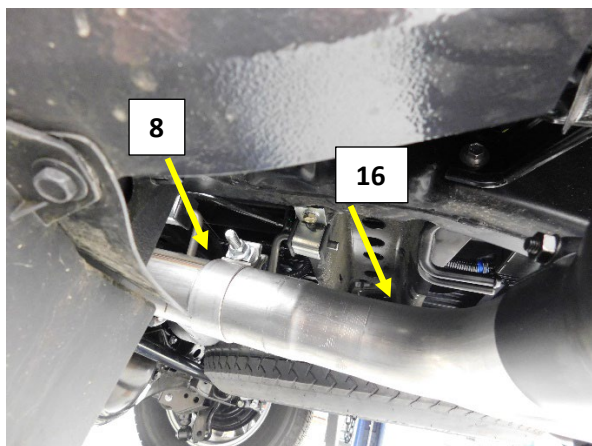
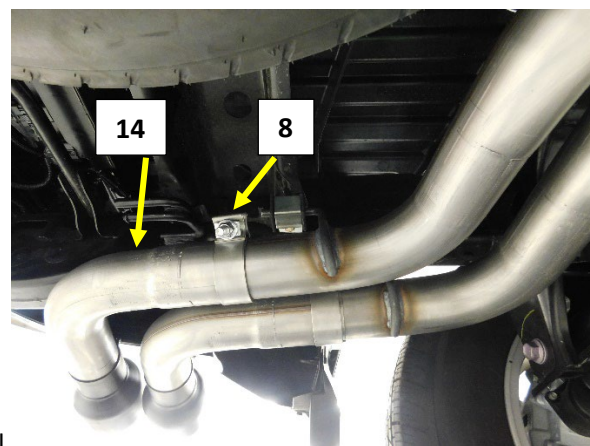

Figure.18
Figure.19
20. Install a 2.5" band clamp on to the Side Exit Pipe "A" (16) with the clamp at the top of the pipe and bolt facing out.
21. Install Side Exit Pipe "A" pipe on to the left tail pipe and tighten the clamp to allow for adjustment. **Fig.18**
22. Install a 2.5" band clamp on to the Side Exit Pipe "B" (14) with the clamp at the top of the pipe and bolt facing in.
23. Install Side Exit Pipe "B" pipe on to the right tail pipe and tighten the clamp to allow for adjustment. **Fig.19**